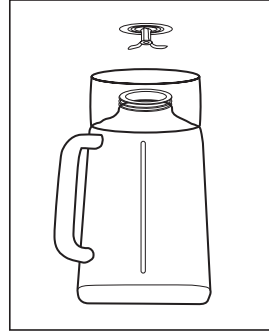

FIGURE 2
3. Place blade into jar. (Figure 2)